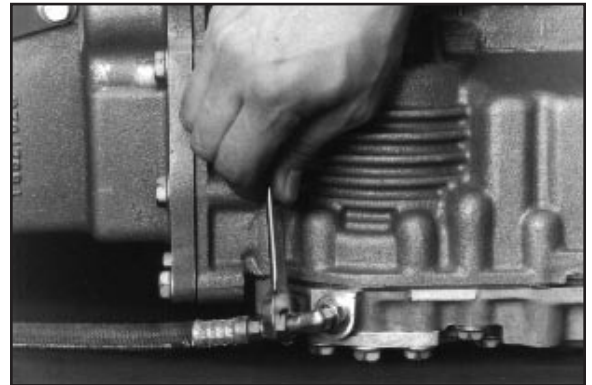

Fig. 11 (Right side shown)
11. Use the special fitting to securely attach the high pressure line to the transmission. This fitting is included with the P.T.O. (**Fig. 11**). See the chart on page 12 for the correct hose specifications. With the hose and P.T.O. securely connected, refill the transmission to the manufacturer's suggested specifications.